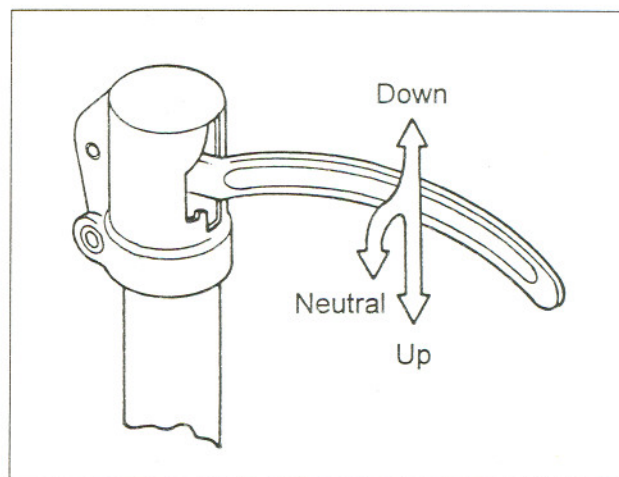

Fig. 4
To raise the forks, place handle in the UP position (bottom part of the handle slot), see Fig. 4.
1. Lower forks to lowest position, Figure 4.
3. Place lever in UP position (bottom part of slot), Figure 4.
1. Place lever in NEUTRAL position (center notch of slot), Figure 4.